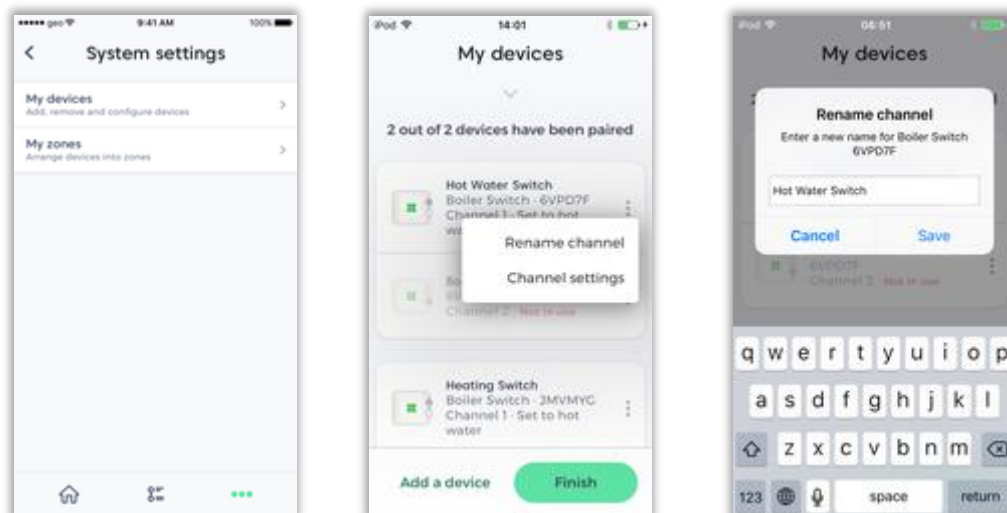

Fig 7.6 - geo Home App - Renaming channels
- Navigate to **My devices > Rename channel/device** (see Fig 7.6)